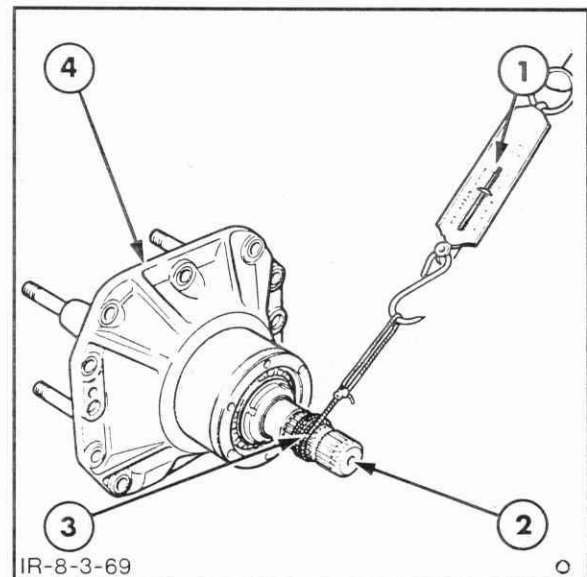

Figure 7-132
4. Wrap a length of string evenly and without overlapping around the exposed input spline and using a pull scale, measure the force required to rotate the pinion shaft in its bearings, Figure 7-132. The scale should be read during rotation of the pinion. Do not read the scale at the point where rotation starts.